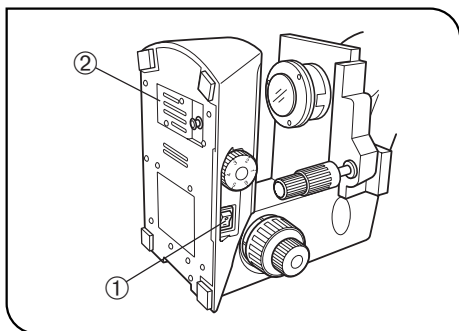

Fig. 1
2. To avoid potential shock hazards and burns when replacing the lamp bulb, set the main switch 1 to "○" (OFF) then disconnect the power cord from the wall outlet in advance. Whenever you replace the bulb during use or right after use, allow the lamp socket 2 and bulb to cool before touching. (Fig. 1)